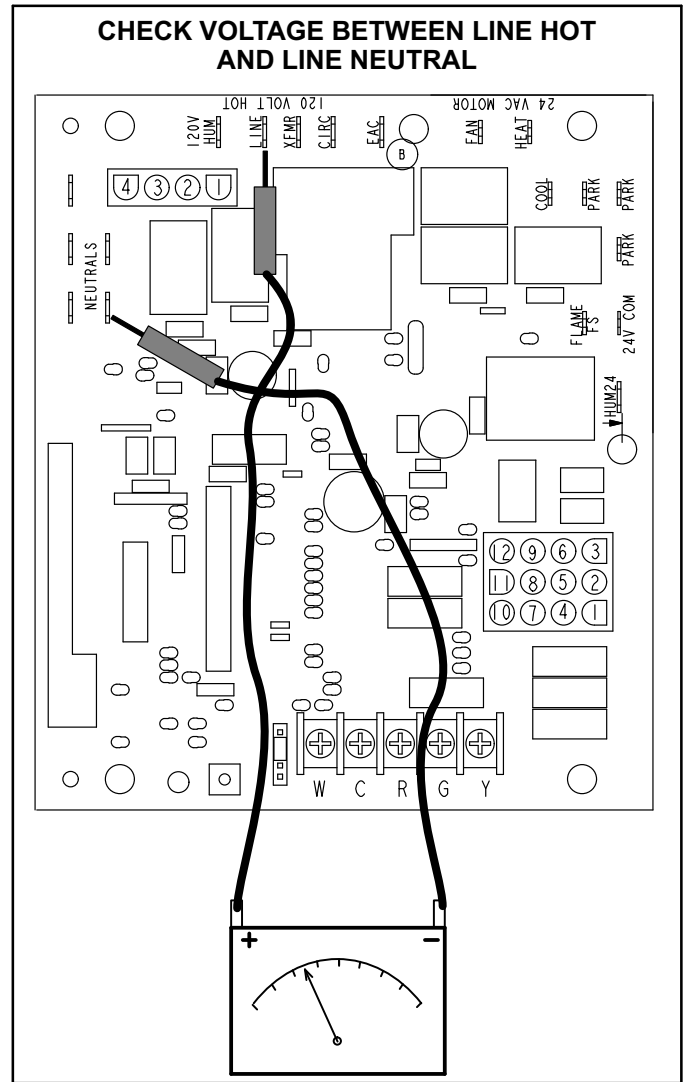

FIGURE 24
- 2 - In addition, measure the AC voltage from Line Hot to Line Neutral (spade terminals) on the integrated control. See figure 24. This voltage should be in the range of 97 to 132 Vac.